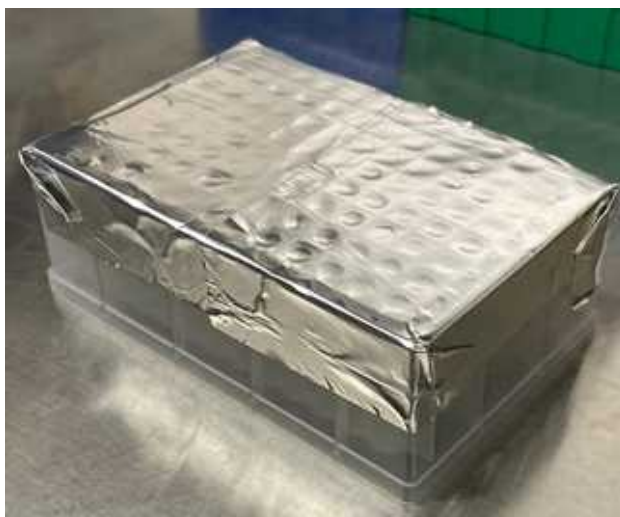

Figure 6. Two aluminum seals applied to the SEP in a perpendicular orientation.
- Apply two aluminum seals perpendicular to the sealing mat on the SEP (Figure 6).